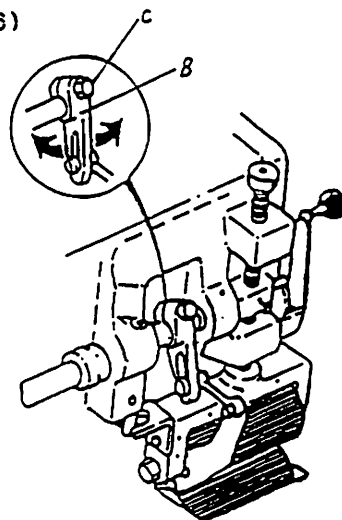

Fig. 16
- c) Fine adjustment of travel of the puller (Fig 16)